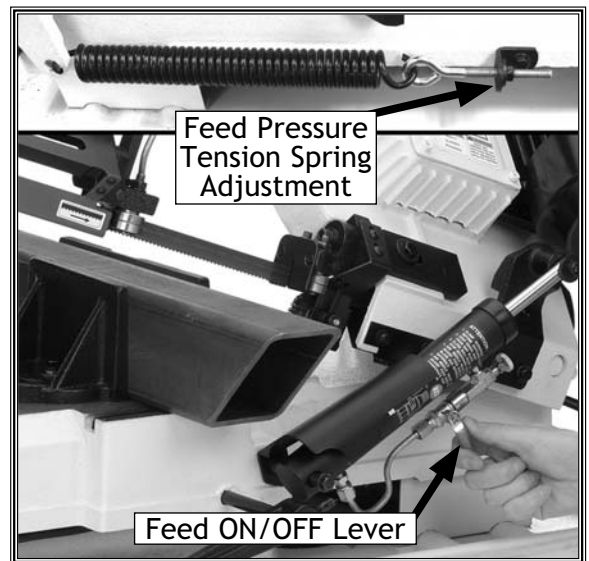

Figure 39. Bandsaw operating and starting feed before blade contacts workpiece.
2. Using a 14mm wrench, adjust the feed pressure tension spring so the spring coils are not in tension, but the spring is still held firmly in place (see **Figure 39**).
6. Slowly rotate the feed rate dial to a conservative feed rate until the saw begins to cut the workpiece (see **Figure 39**).